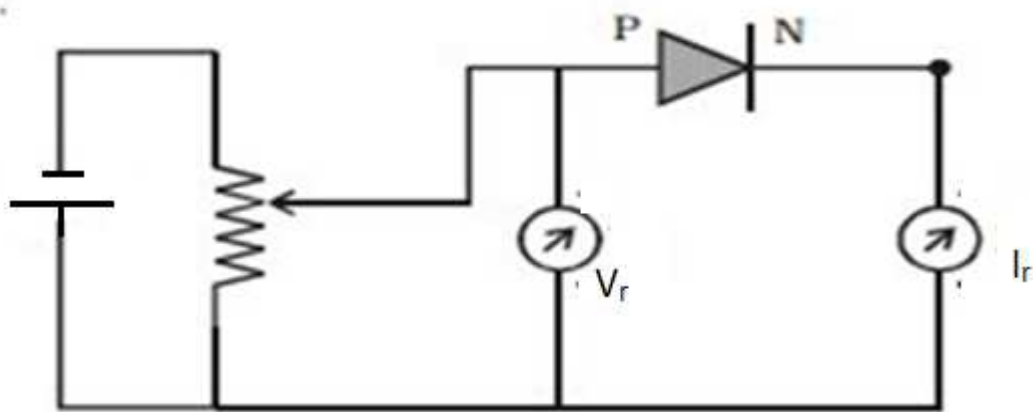

Figure 3 Reverse bias
- (IV) **Reverse Bias:** When -ve end of battery is connected to P region and +ve end of battery connected to N region of PN junction, A electric field is set up directed from N to P inside the semiconductor. This biasing is called reverse bias as in Figure 3. In this condition the majority holes in P region and electrons in N region will not cross the junction, but few minority charge carrier will cross the barrier. The current constituted by minority charge carries will form small reverse current. When reverse voltage is increased, the fast moving minority electron will break the covalent bond, which will available the charge carrier. In this condition a large amount of reverse current will flow. This condition is called avalanche breakdown.
1. Make connection as shown in circuit diagram (figure 3).